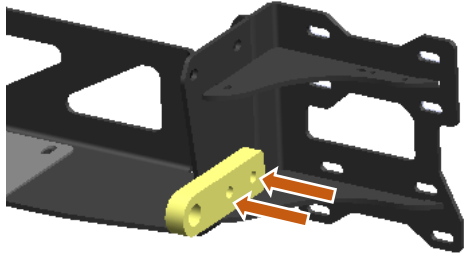

Figure 28: Tow Hook Installation
25. Install the tow hooks on the *outside* of the winch tray if desired through the four (4) lower holes using the provided $\frac{1}{2}$ -13" x 2" hardware (Figure 28).